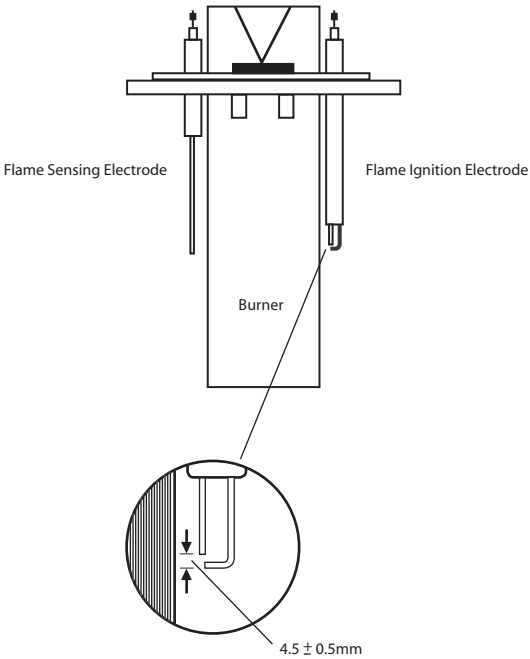

Figure 6.2 Spark & Flame sensing electrodes
- Remove the (3) hexagon nuts fixing the assembly to the top of the boiler using a 11mm AF spanner.
- Check and if necessary reset the ignition spark gap to 4.5 ± 0.5 mm and the flame sensor position (figure 6.2).
- Remove the (3) hexagon nuts fixing the bottom boiler casting using a 11mm AF spanner.